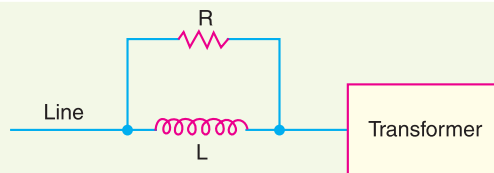

Fig. 24.15
- (ii) Another type of surge absorber consists of a parallel combination of choke and resistance connected in series with the line as shown in Fig. 24.15. The choke offers high reactance to surge frequencies ( $X_L = 2\pi fL$ ). The surges are, therefore, forced to flow through the resistance  $R$  where they are dissipated.